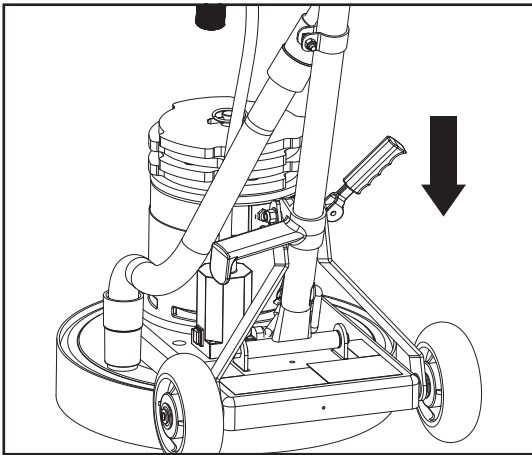

Figure 5
2. To lock the handle, push the locking lever down. See figure 5.
1. The locking lever is on the lower part of the handle tube. Use your foot to lift the lever. See figure 5.